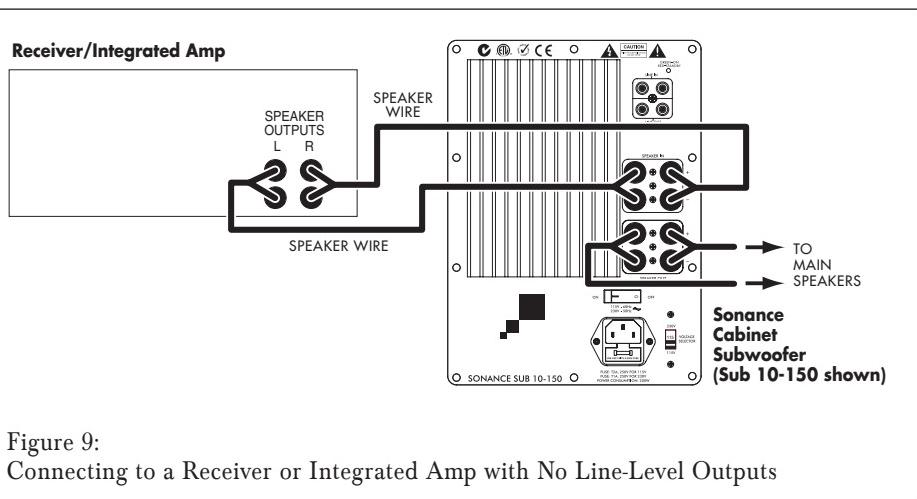

Figure 9:
4. Receiver or integrated amplifier with no line-level outputs (see *Figure 9*):